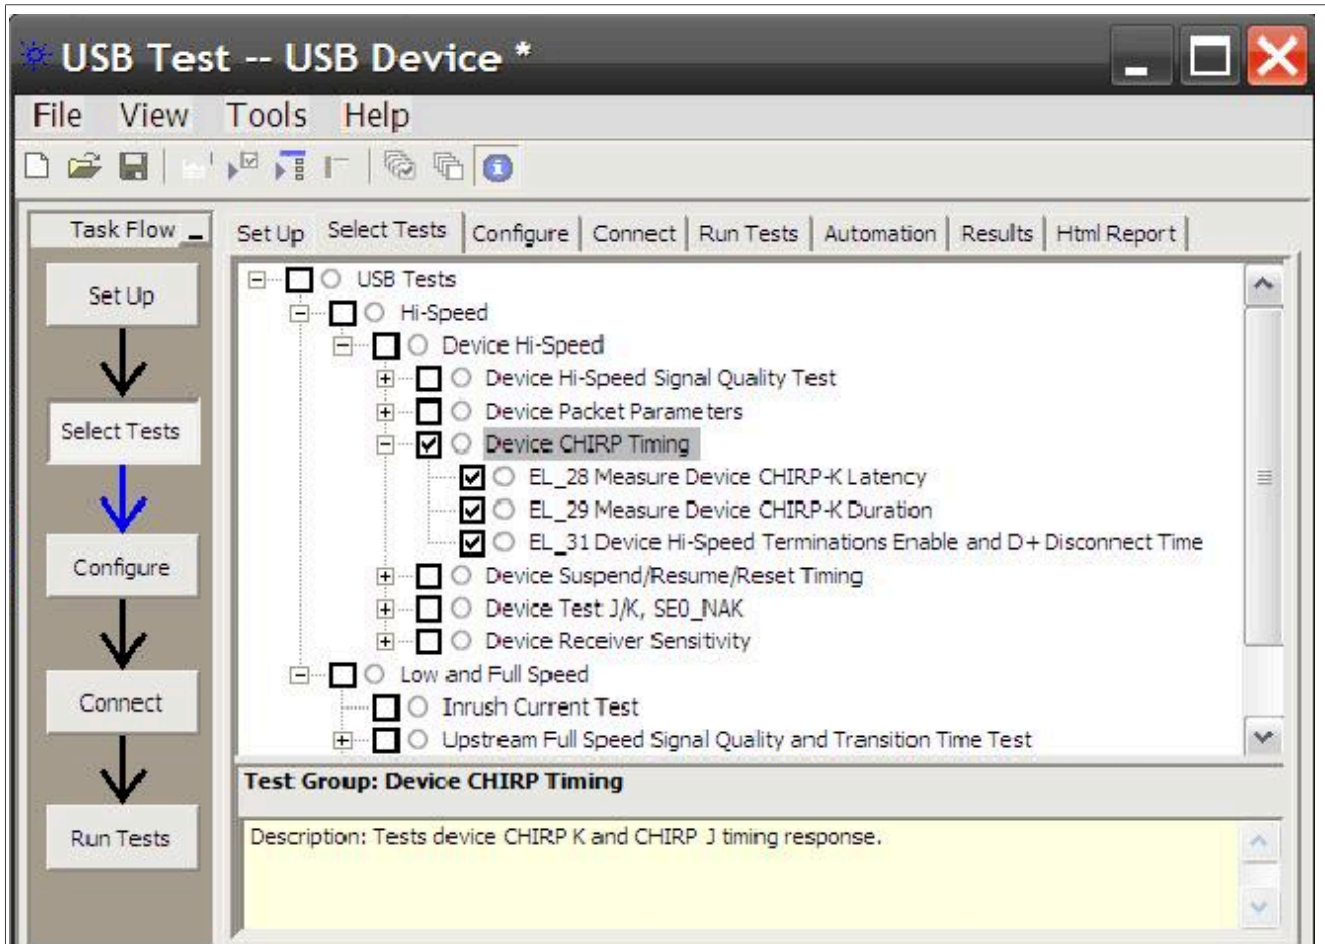

Figure 41. Device Chirp J/K Test
1. Select the test items in the USB Automated Test Software on Oscilloscope as shown in Figure 41 below, and make sure you set the Test Type configuration option to “Hi-Speed Near End” before running the test.